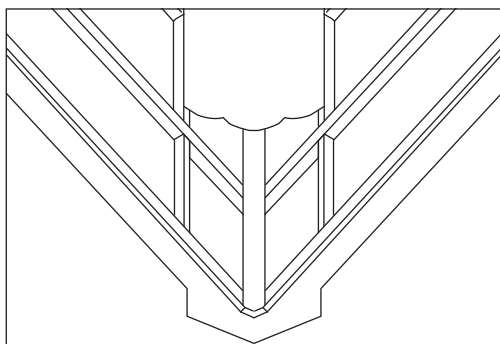

Fig 3 - Use of support noggins
- 3 The width of the valley boards should extend by a minimum of 50mm beyond the edge of the valley trough. For overlaid boards on rafter spacings above 450mm, it is recommended that support noggins of 75 x 50mm are fixed under the outer edge of the valley board between the rafters (Fig 3).